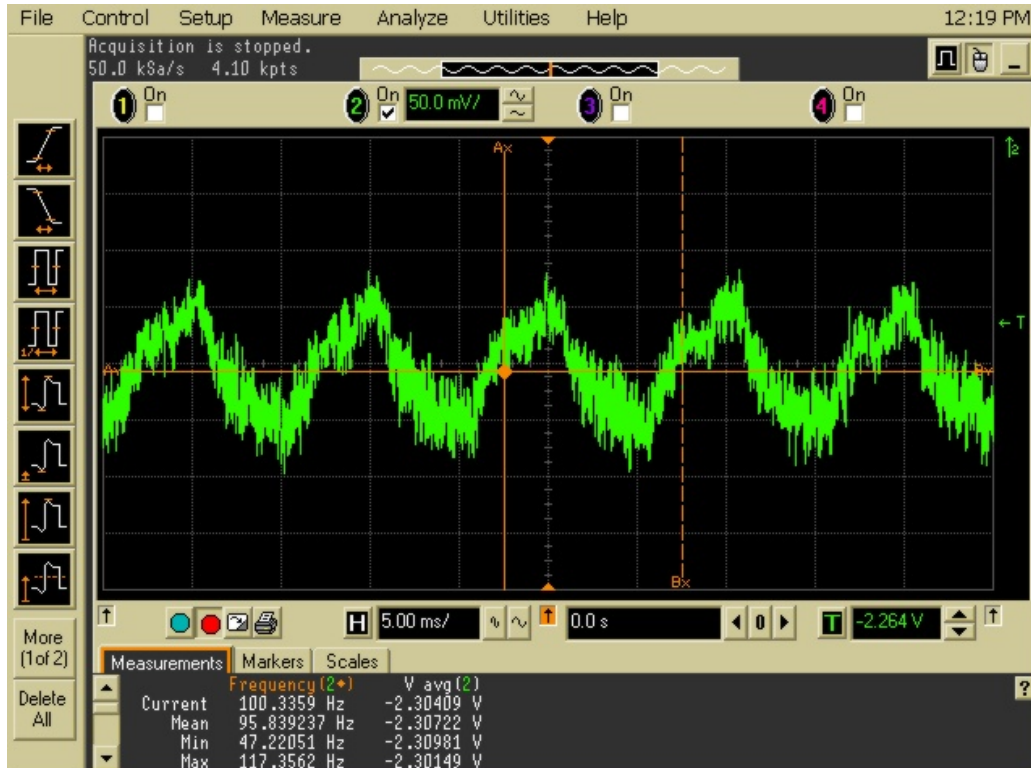

Figure 2, Screenshot of the photon modulation from fluorescent lights at 100Hz, as detected by a MicroSL-30035
- If there is fluorescent lighting available, the mains frequency should be visible within the light source. Turn off any other sources of light if possible. The overall light level arriving at the SPM will need to be reduced in order to avoid saturation. To do this, cover the SPM with a sheet of paper or other thin, semi-translucent material, one layer at a time until the characteristic frequency is revealed in the signal, as in Figure 2. With each layer, the voltage scale on the oscilloscope will likely require adjusting.